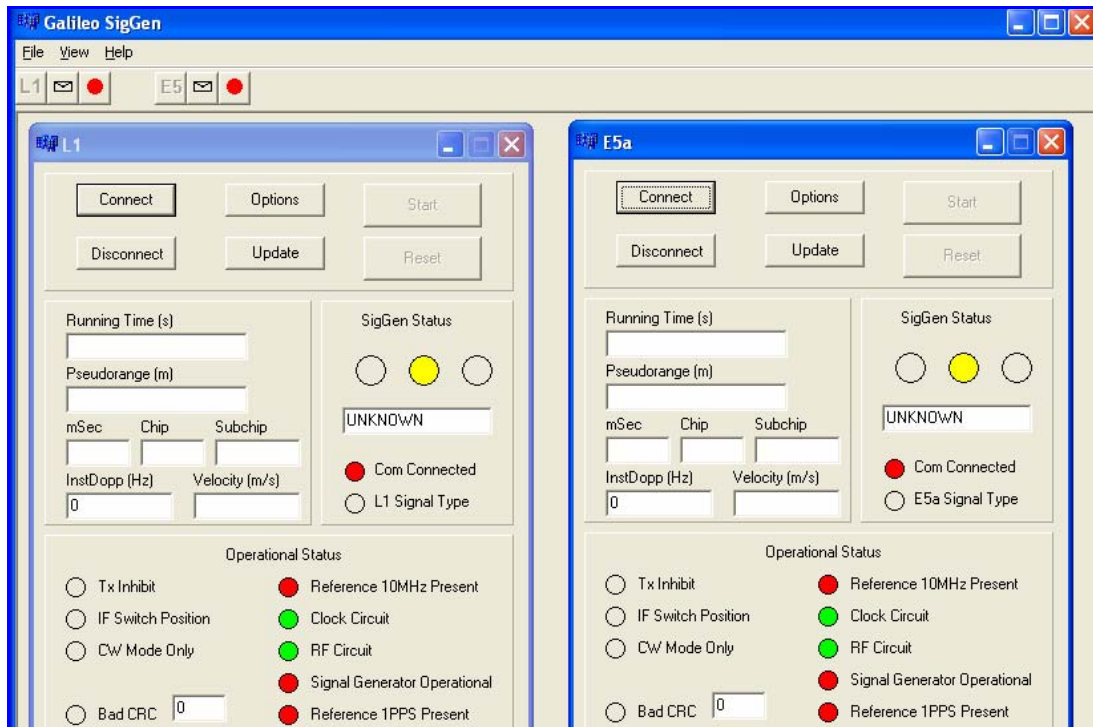

Figure 11: Galileo SigGen GUI
2. Launch the Galileo SigGen GUI application. The screen in *Figure 11* on *Page 42* appears.